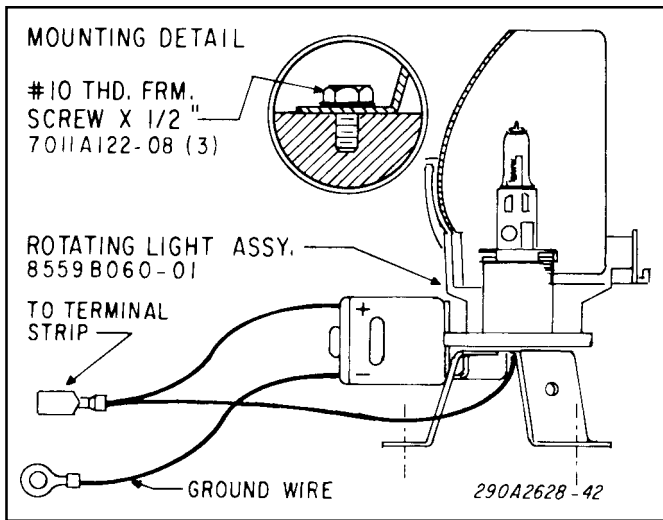

Figure 3.
b. See figure 3. Secure the assembly in position using three #10 x 1/2" hex head thread-forming screws. Torque the screws to 30 - 55 in-lbs.